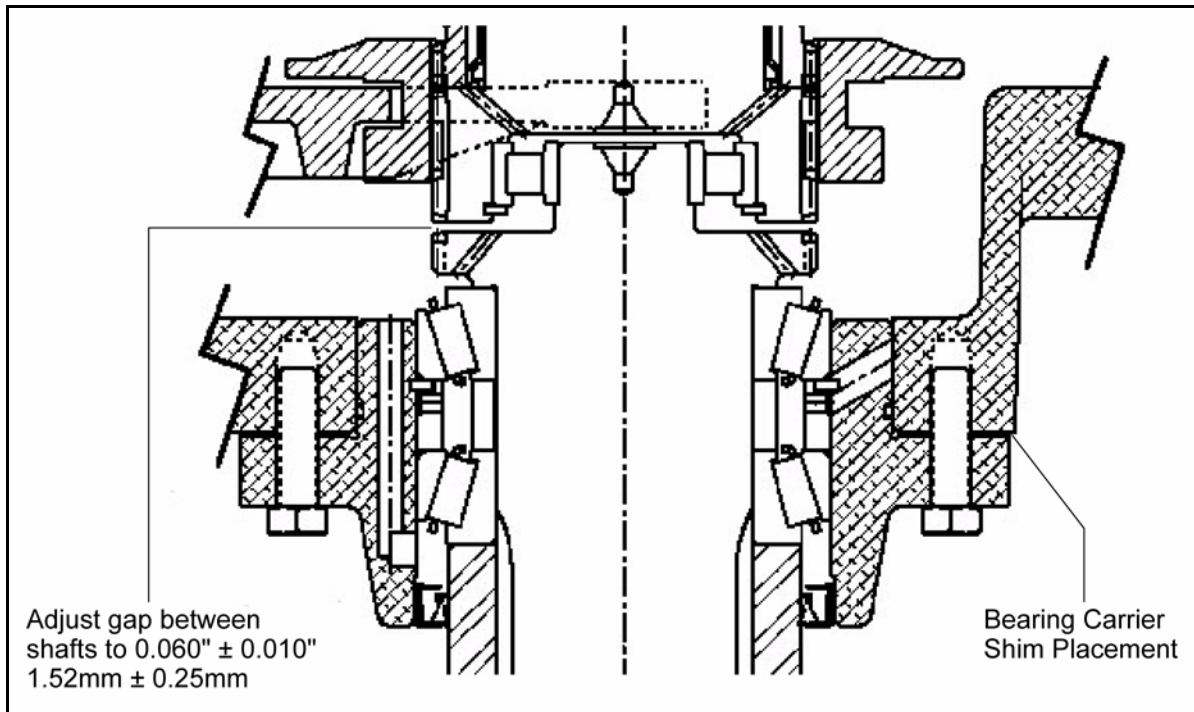

Figure 9-8: Shaft End Gap
5. Insert tail shaft into gearbox housing, aligning inner race of roller bearing with outer race on the mating input shaft. Also see Figure 9-8: "Shaft End Gap".